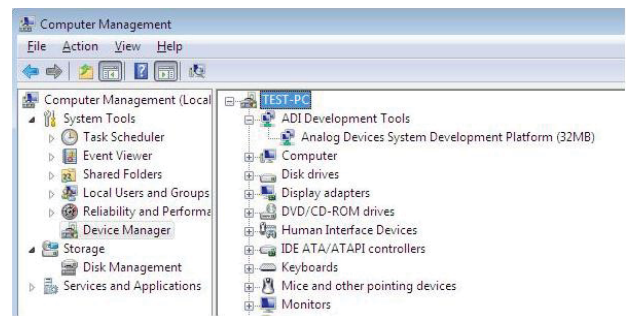

Figure 5. Device Manager
2. Once the drivers are installed, check that the board has connected correctly by looking at the **Device Manager** of the PC. The **Device Manager** can be found by right clicking **My Computer**, selecting **Manage**, then **Device Manager** from the list of **System Tools** (see Figure 5).